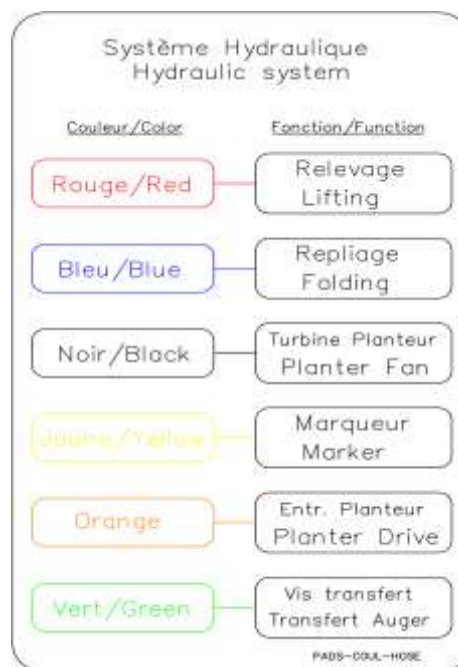

Figure 3
9. Connect all hydraulic hoses to the tractor. Each hose is identified by a color code to determine its function [Figure 3].